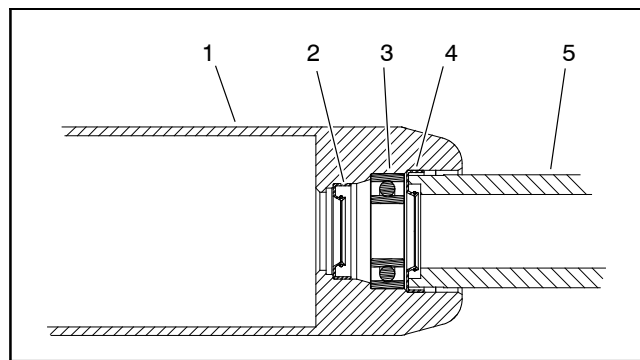

Figure 51
C. Install first outer seal into roller tube making sure that seal lip (and garter spring) faces end of tube. Use bearing/outer seal tool (see Special Tools in this chapter) and soft face hammer to lightly seat seal against roller shoulder (Fig. 51). Make sure that bearing still freely rotates after seal installation.